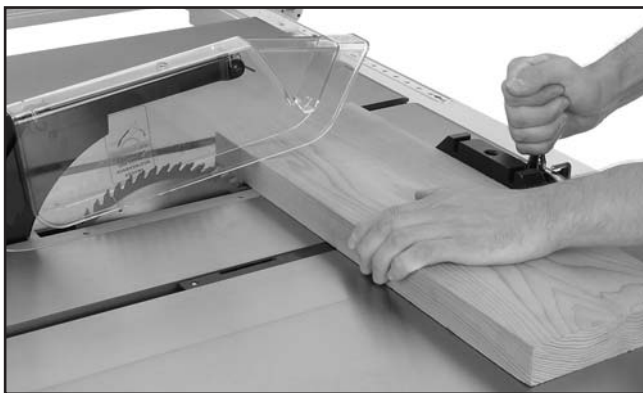

Figure 43. Typical crosscutting operation.
7. Hold the workpiece firmly against the face of the miter gauge (**Figure 43**), and ease it through the blade until the workpiece is completely past the saw blade.